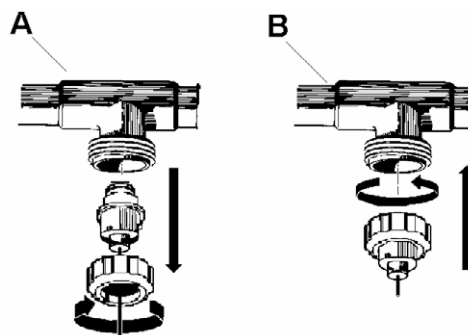

Figure 9
7. Remove the coupling nut from the sensor to be replaced. Remove the sensor by gently pulling straight down (refer to *Figure 9 – A*). The sensor is held in place by a rubber "O" ring.
- Slip the coupling nut over the electrical connector and then onto the housing threads and hand tighten the coupling nut (refer to *Figure 9 – B*).